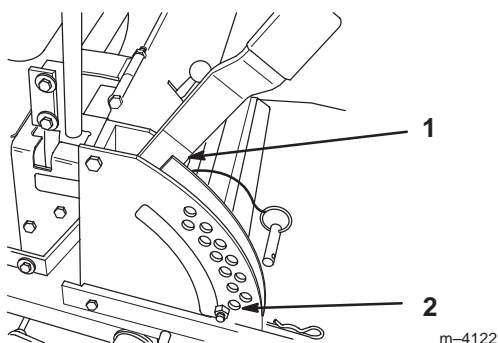
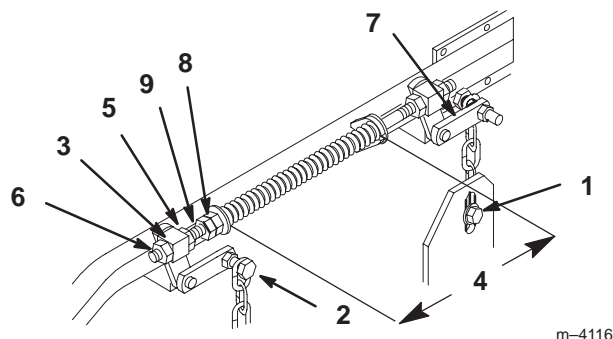

Figure 57
Figure 58
2. Check tire pressure of all four (4) tires. If needed, adjust to 13 psi (90 kPa)
4. Raise the deck to the transport position (Fig. 57). Take force off of the two large deck lift springs by loosening jam nut and front spring nut, in front of each spring, as far as possible (Fig. 58).
5. Place two 1-1/4 in. (35 mm) thick blocks under rear left and right lower edge of mower. Place one 1-3/8 in. (44 mm) block under front center lower edge of mower. Not under anti-scalp roller brackets. Lower mower to the 1-1/2 in. (38 mm) height-of-cut position (Fig. 57).
6. Loosen bottom chain bolt in slot at rear of deck. Repeat for opposite side. (Fig. 58).
7. Loosen front and rear locking nut on either side of front swivel. Loosen until front chains are loose and deck is supported by blocks. Repeat for opposite side. (Fig. 58).
8. When hardware is loosened, remaining tension in the large support springs will tend to rotate the deck lift handle up, out of the 1-1/2 in. (38 mm) position. Press down on the rear deck support arm to firmly return the deck lift handle to the 1-1/2 in. (38 mm) position (Fig. 58).
9. While continuing to press down on rear deck support arm, take the slack out of the rear chain and tighten hardware at the bottom (Fig. 58). Downward pressure may now be released. Repeat for opposite side.
14. Raise deck lift lever to the transport position (Fig. 57).
15. Adjust compression springs by turning the front spring nuts so the distance between the two large washers is 10-1/4 in. (260 mm). Then tighten jam nut (Fig. 58).